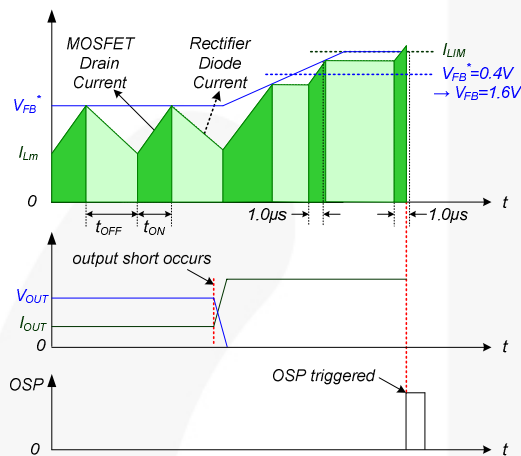

Figure 22. Output-Short Protection
4.3. Output-Short Protection (OSP): If the output is shorted, steep current with extremely high di/dt can flow through the SenseFET during the minimum turn-on time. Such a steep current brings high-voltage stress on the drain of the SenseFET when turned off. To protect the device from this abnormal condition, OSP is included. It is comprised of detecting V_{FB} and SenseFET turn-on time. When the V_{FB} is higher than 1.6V and the SenseFET turn-on time is lower than 1.0 μ s, the FSGM300N recognizes this condition as an abnormal error and shuts down PWM switching until V_{CC} reaches V_{START} again. An abnormal condition output short is shown in Figure 22.